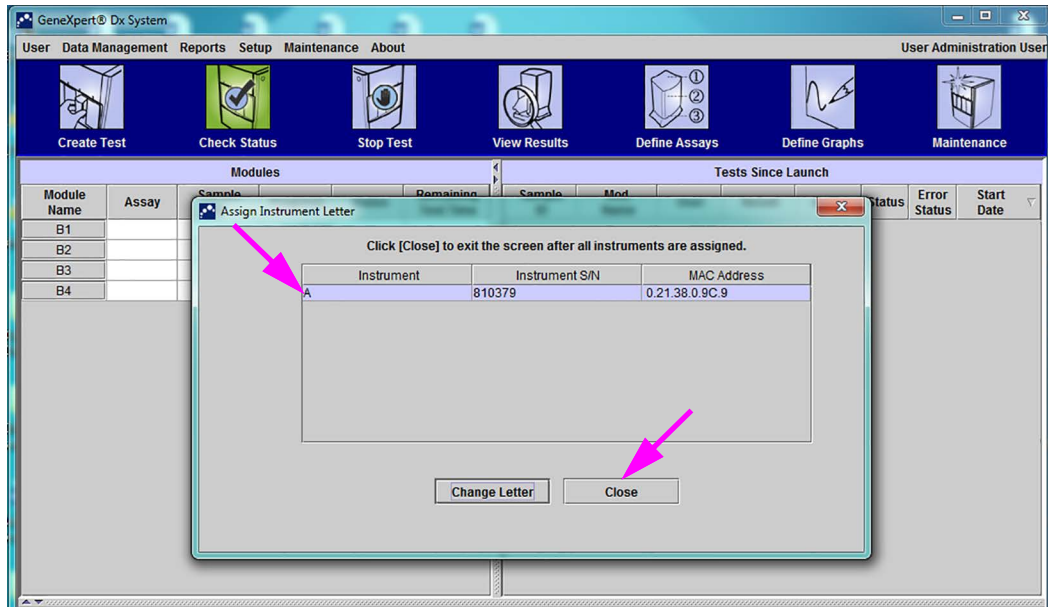

Figure 2-39. GeneXpert Dx System Window with Assign Instrument Letter Dialog Box Overlay
- To change the assignment letter, click to select the instrument to change and then click **Change Letter** in the Assign Instrument Letter dialog box (see Figure 2-39).